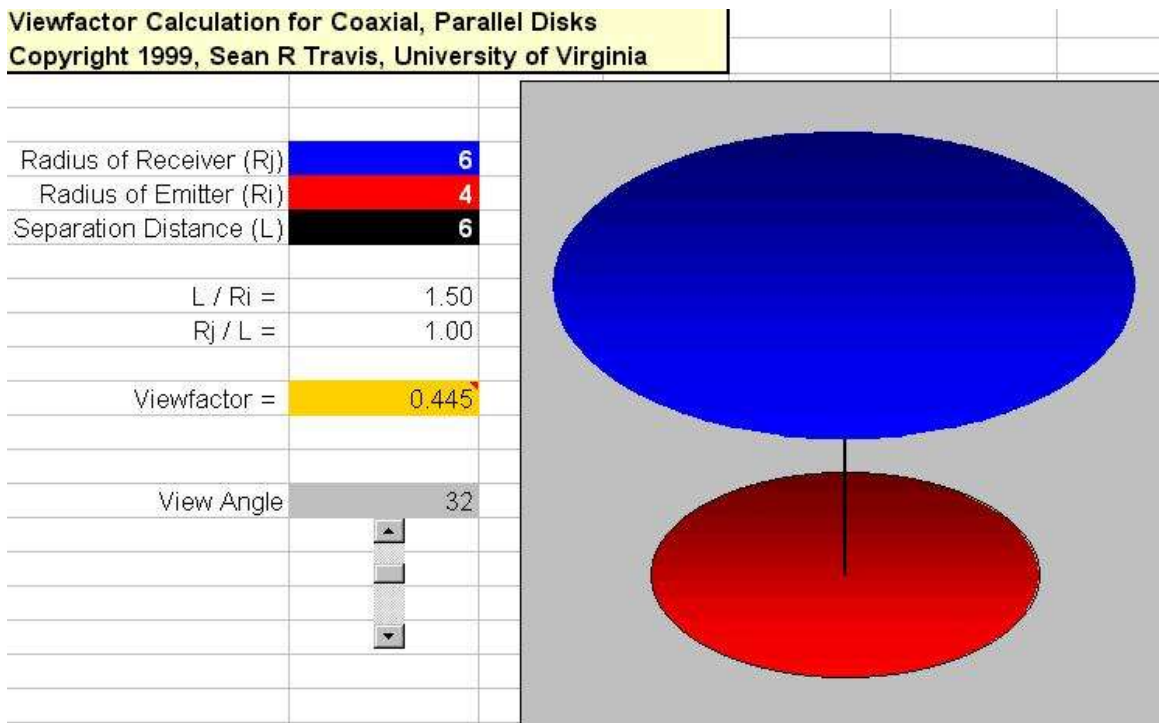

Figure 8. Excel worksheet for viewfactor for coaxial, parallel disks
Any of the drawing and charting capabilities of Excel may be implemented through VBA coding. ActiveX controls may be incorporated similarly. (Use **Tools – Customize – Toolbars – Control Toolbox** to bring up the controls toolbox. The toolbox includes an icon that will switch you between **Design** and **Run** mode.)⁴ In the example seen in Figure 8 below the user enters the radius of the two coaxial parallel disks and their separation distance. A VBA function computes the viewfactor (a geometric quantity representing the fraction of radiation emitted by one disk that is intercepted by the other assuming the first surface is a diffuse emitter and used in radiative heat transfer analysis and in computer graphics) based on the analytical solution, and then invokes a subroutine that draws the two disks to scale within the gray window. As an additional feature, the user can change the viewing angle using the vertical slider bar control.
Now one can include similar coding into a custom VBA application program, changing for instance, the size, colors and location to suit your needs. In Figure 8, several “special effects” have been used, including horizontal shading of both disks to give the illusion of depth.
Certain controls, e.g., the scrollbar, have the property of a “linked cell.” In Figure 8, the cell that in this static picture has a value of 32 is linked to the scrollbar and holds the current value set by the scrollbar. VBA code can be made to access this particular cell, thus allowing the scrollbar to be used for data input. The “value” property of the scrollbar is an integer that may be set to run from 0 to 32767 ($= 2^{15}-1$). Thus if you wanted the actual property being controlled to run from -1.0 to 1.0 in increments of .01, you could take the limits for the scrollbar to run from 0 to 200 and put that number in the assigned linked cell (which you may want to hide somewhere). In another cell or in VBA code, set the actual value $= -1.0 + \text{scrollbar value}/100$. When the scrollbar value is at its minimum value of 0, then your property has the value of -1.0; at the maximum value of the scrollbar (200), your actual variable has the desired value of +1.0.